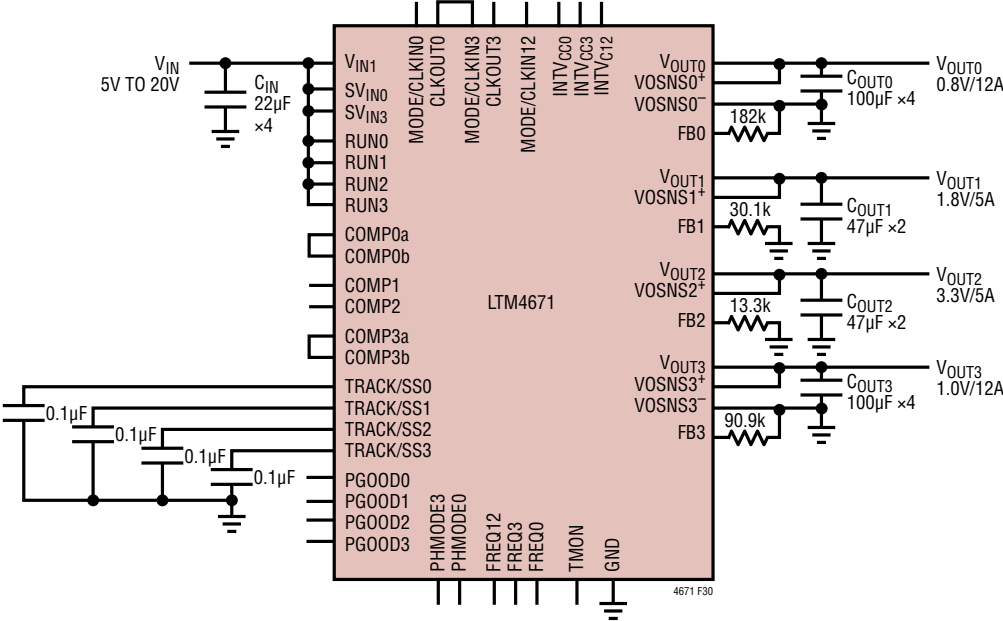

Figure 30. 5V to 20V Input, Quad Output Design
**Table 3. Output Voltage Response vs Component Matrix (Refer to Figure 30) 0A to 4A Load Step Typical Measured Values**